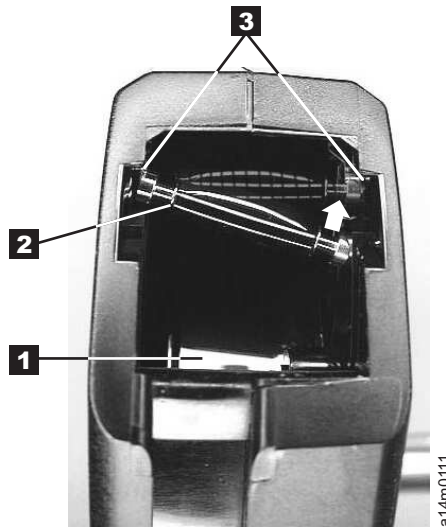

Figure 60. Placing the dislodged leader pin into the correct position. The cartridge door is open, showing the leader pin out of position.
1. Slide open the cartridge door (see **1** in Figure 60 on page 190) and locate the leader pin **2** (you may need to shake the cartridge gently to roll the pin toward the door).